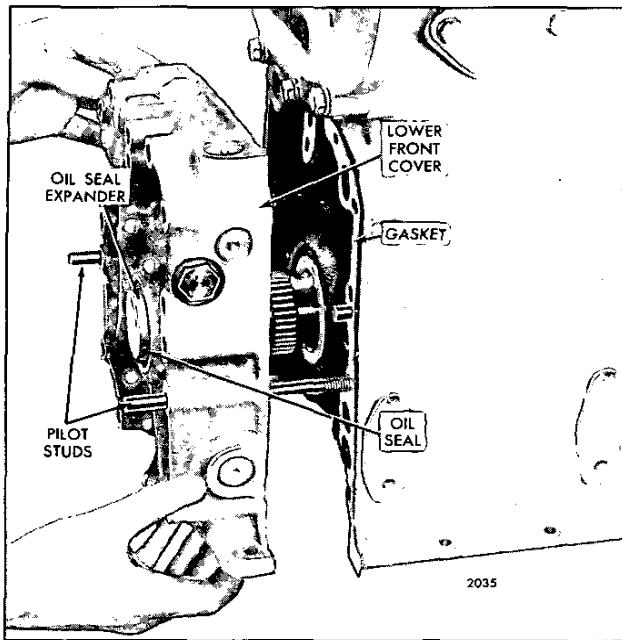

Fig. 3 - Installing Lower Engine Front Cover — In-Line Engine
3. Thread two 3/8"-16 pilot studs approximately 8" long into two diametrically opposite bolt holes in the cylinder block to guide the cover in place (Fig. 3).
4. Apply a light coat of cup grease to the lip of the oil seal. Slide the engine front cover over the oil seal expander and pilot studs as shown in Fig. 3. Push the cover forward until the inner rotor of the oil pump contacts the pump drive gear on the crankshaft. Rotate the crankshaft slightly to align the teeth, then push the cover up against the gasket and block. Do not force the cover.